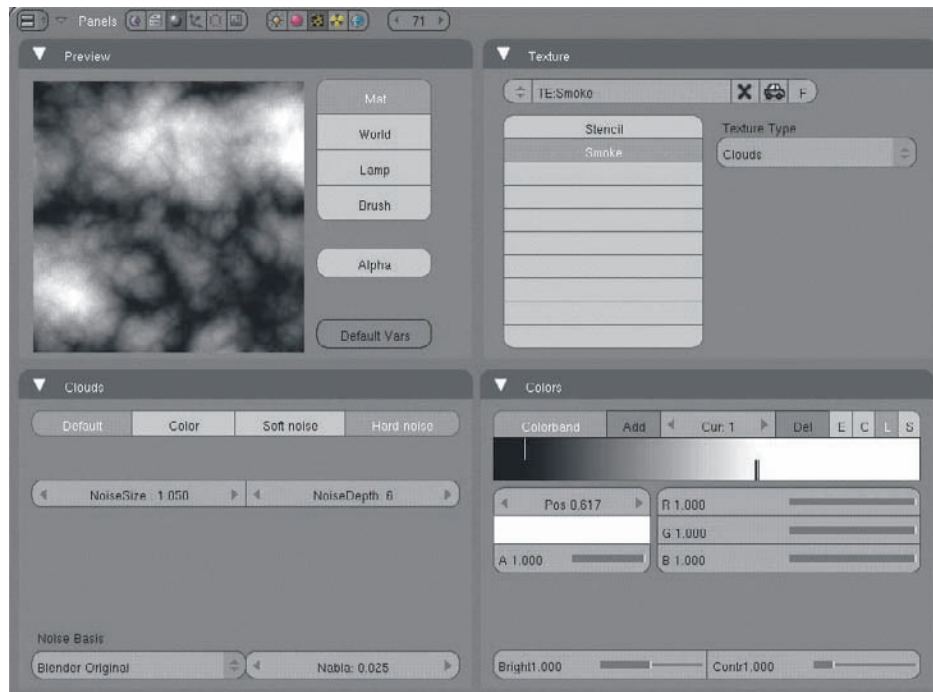
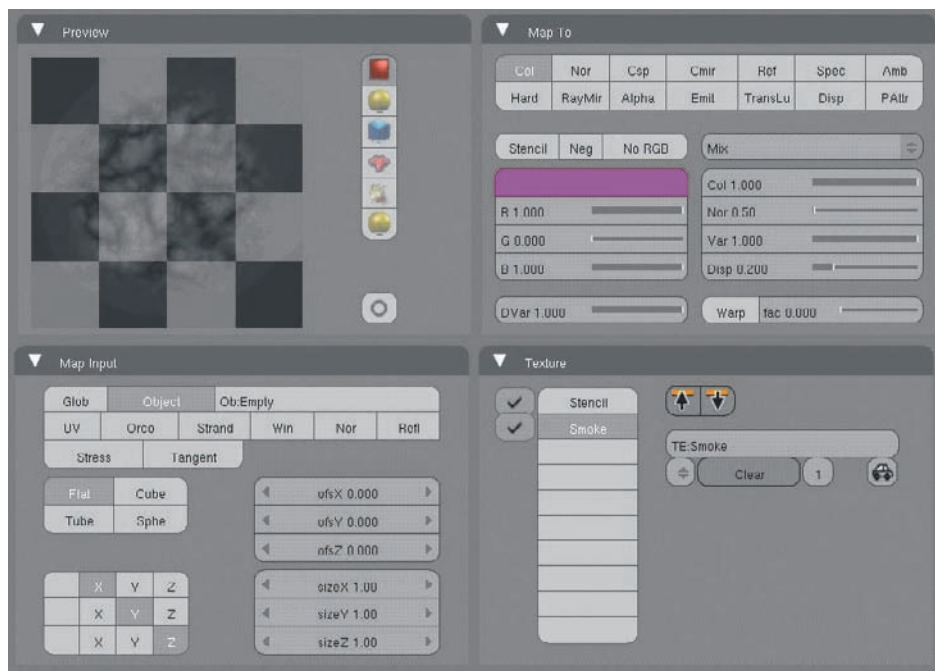

Figure 2.44 Cloud texture for smoke
Figure 2.45 Smoke material settings
12. The smoke texture is set up as shown in Figure 2.44. The cloud pattern is similar to the one used in the Flame texture: hard noise with maximal noise depth. The bright and dark ends of the colorband are reversed, and both the black color and white color should be set to alpha 1. The material settings are shown in Figure 2.45. Select Object on the Map Input tab and type the name of the empty, **Empty**, into the Ob field. The Map To value should be Col.